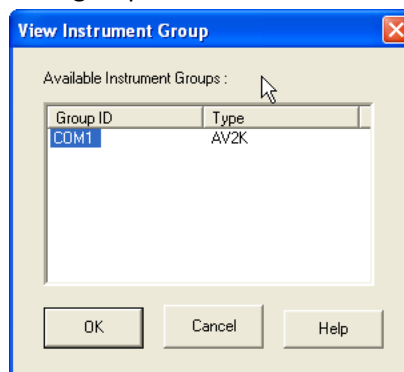

Figure 6: View Instrument Group Window
- Open the **View Instrument Group** window (if it is not already open) by clicking **View Instrument** from the Main menu and selecting the desired instrument group from the list box. Refer to Figure 6.